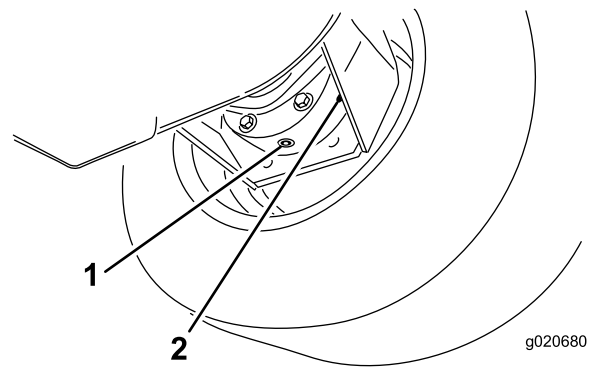

Figure 91
3. Place a drain pan under the brake housing, remove the drain plug, and allow the oil to drain (Figure 91).